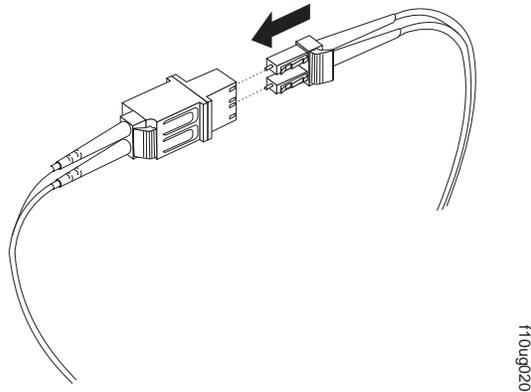

Figure 34. Connecting an LC-LC cable into the LC-SC cable adapter
4. Carefully insert the other end of the LC-LC cable into the LC connector end of the LC-SC cable adapter as shown in Figure 34 on page 53. Push in the connector until it clicks into place.